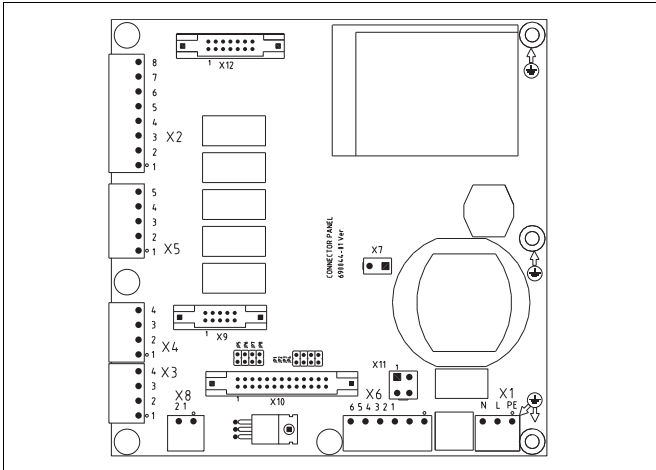
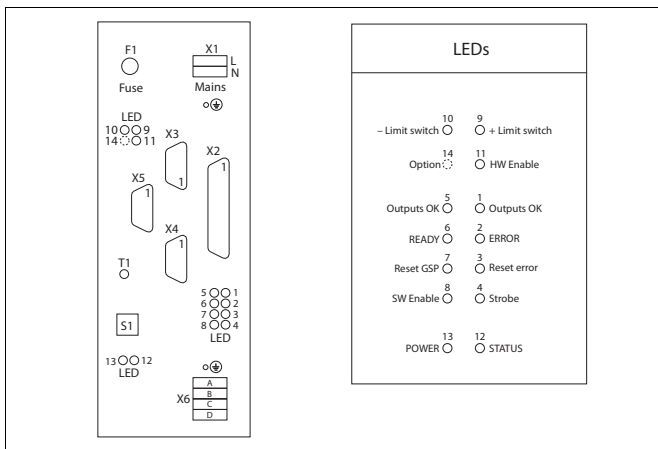

Fig. 5 Connector card
Fig. 6 Connectors and LEDs for step motor controller
The internal connections of the control unit between the step motor controller, display card and connector card are made using cables with connectors. All cables must be connected to ensure the proper operation of the controller. Connector card, Fig. 5, connectors X1...X12, and step motor controller, Fig. 6, connectors X1...X6, are connected as follows:
- Check that LED 11 is lit (HW Enable), see Fig. 6.
- Connect the serial link cable to controller (connector X4) Fig. 6.